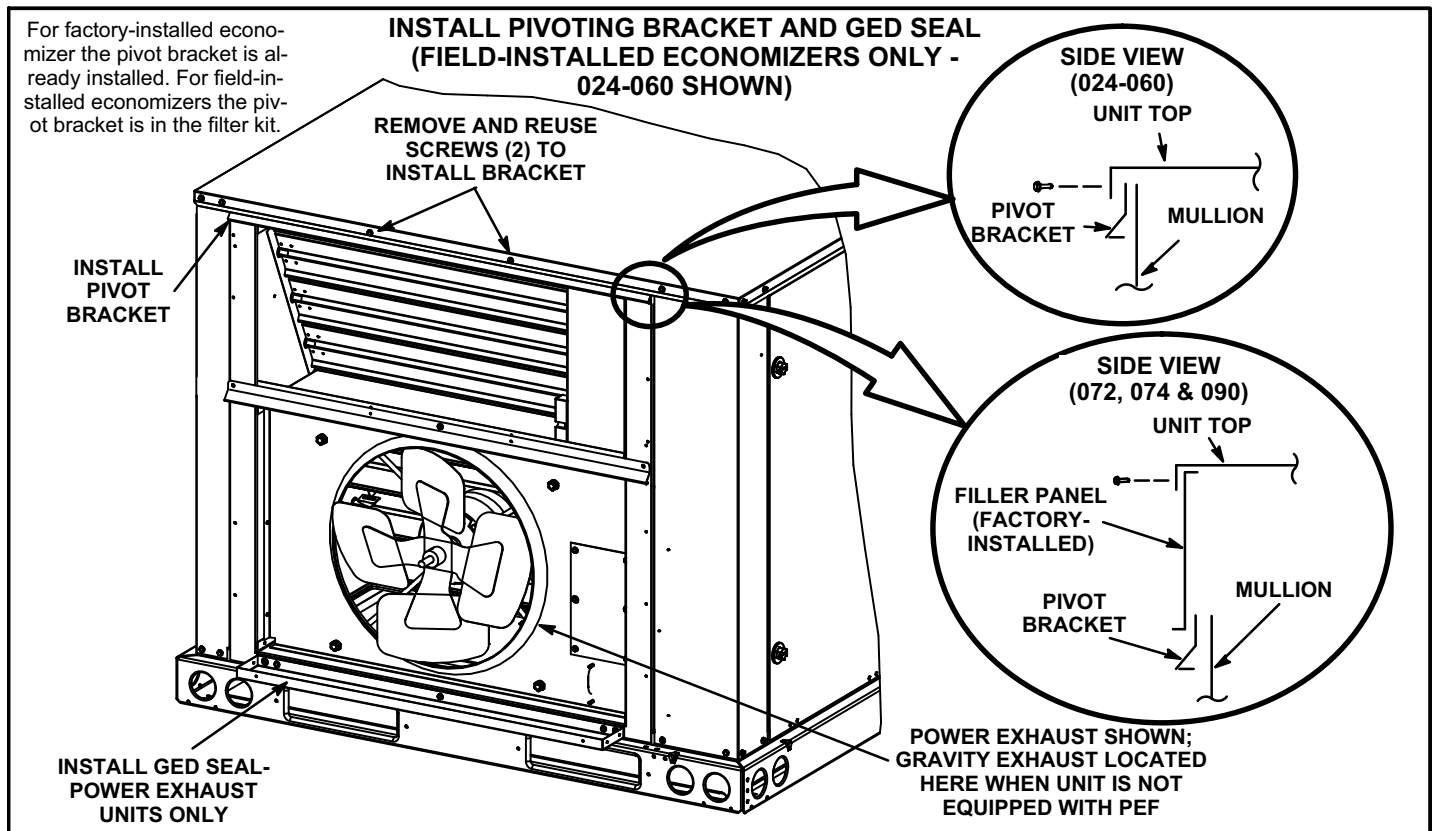
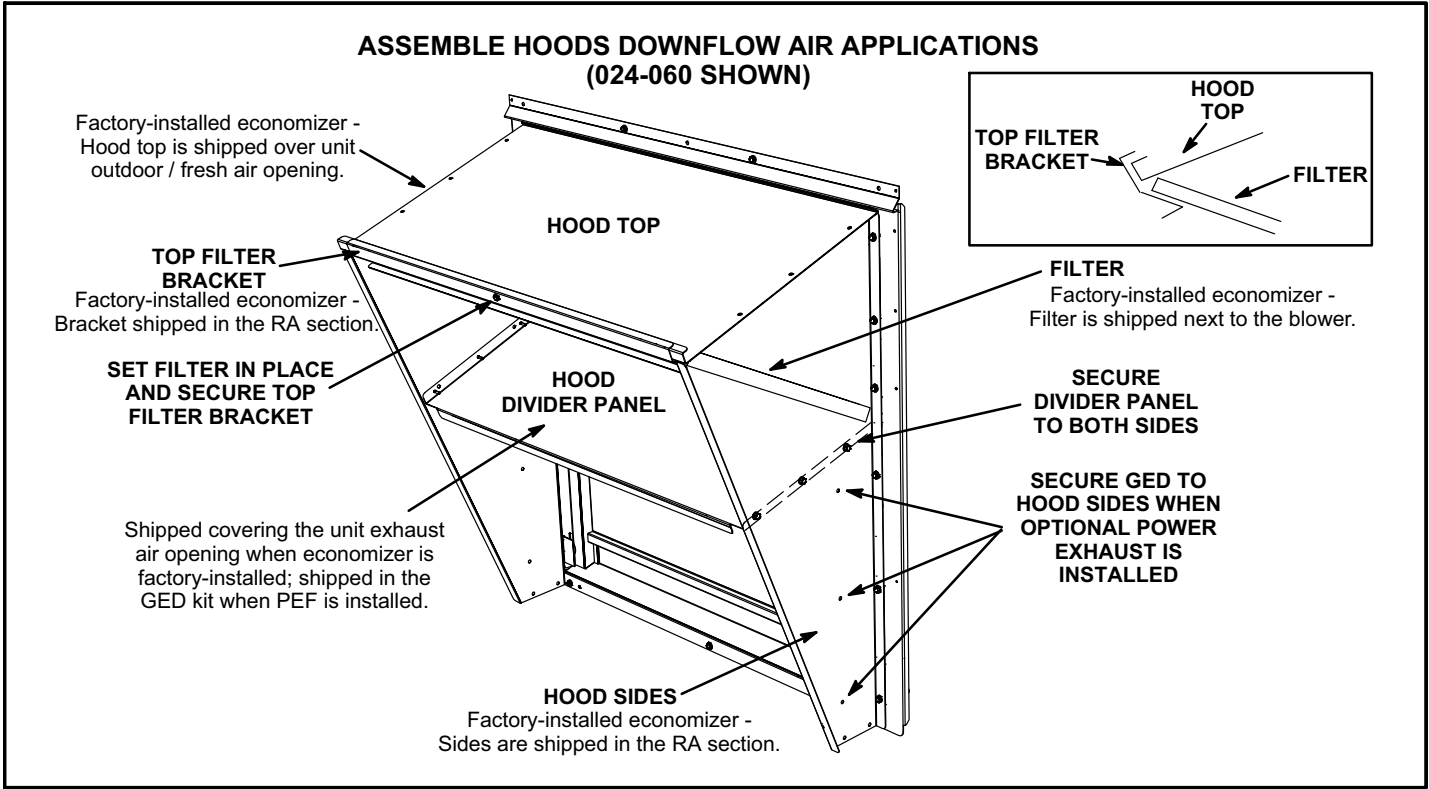

FIGURE 7
FIGURE 9
- 2- Install the power exhaust fans and GED seal in the unit. See figure 7. See the next section to install the outdoor/exhaust air hood. Install the GED in the lower/exhaust hood. See figure 9.
- 2- Install pivot bracket as shown in figure 7.
- 3- Assemble hood as shown in figure 9. Slide top of hood into the ends of pivot bracket. Install top filter bracket after filter is in place.